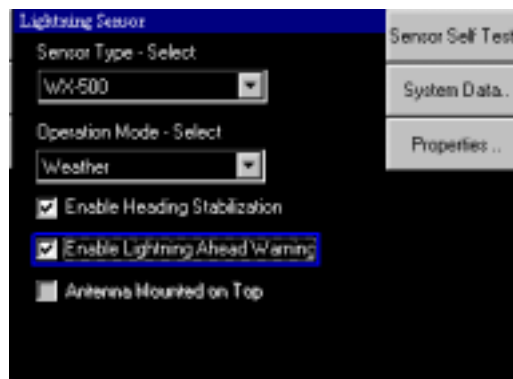

Figure 10: Lightning Configuration Page
2. Activate the LIGHTNING configuration page (Figure 10).
The LIGHTNING SENSOR configuration page (Figure 10) contains the following features: